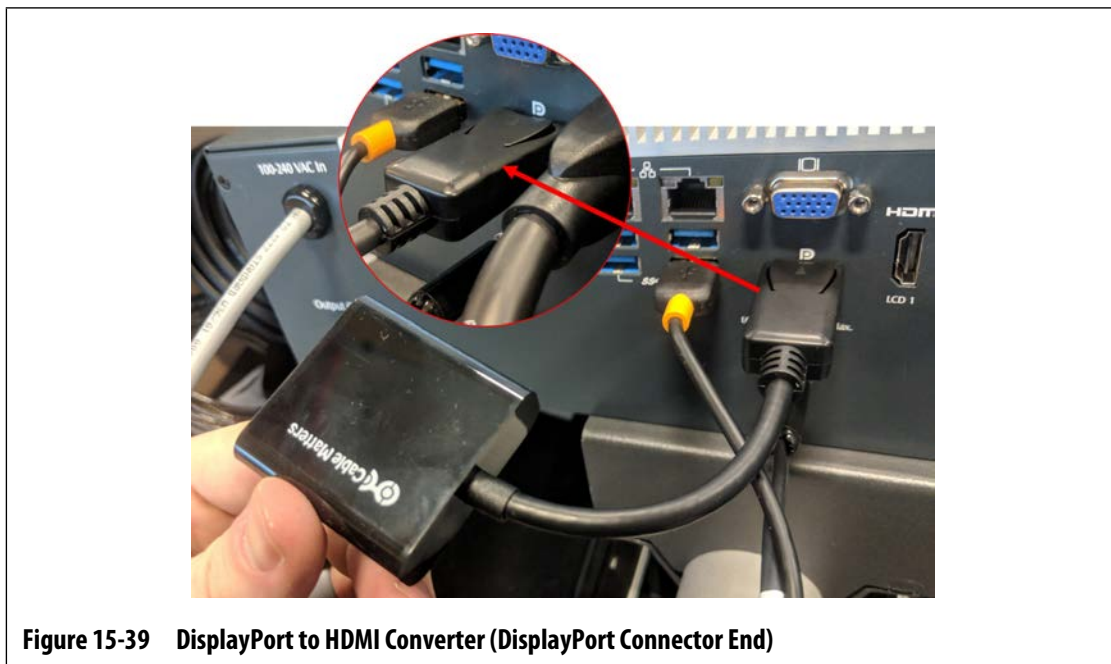

Figure 15-37 Dual Touch Monitor Install - Unpack
3. Find and unpack the items that follow (refer to Figure 15-37):